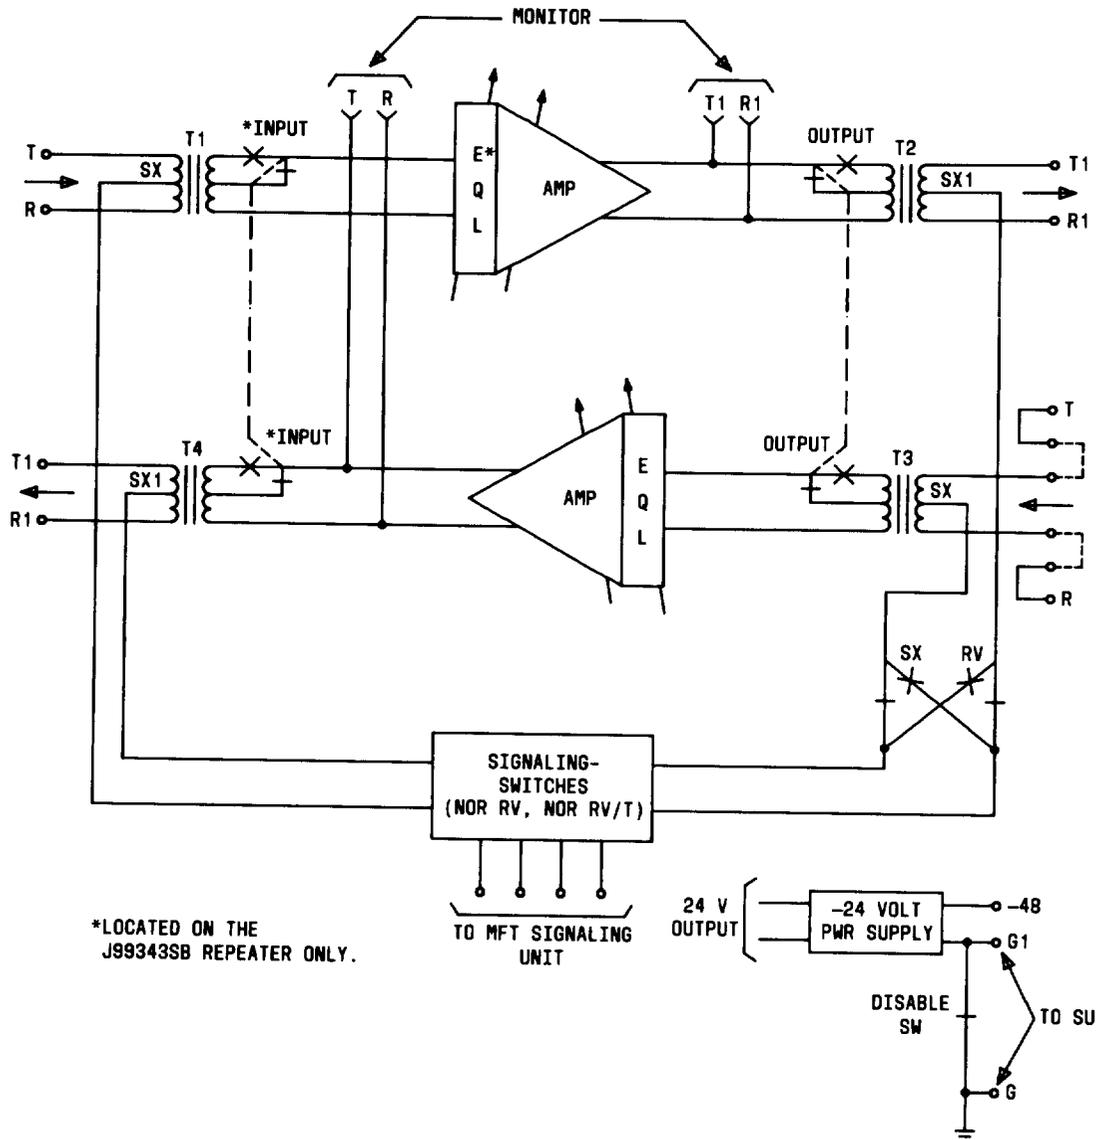
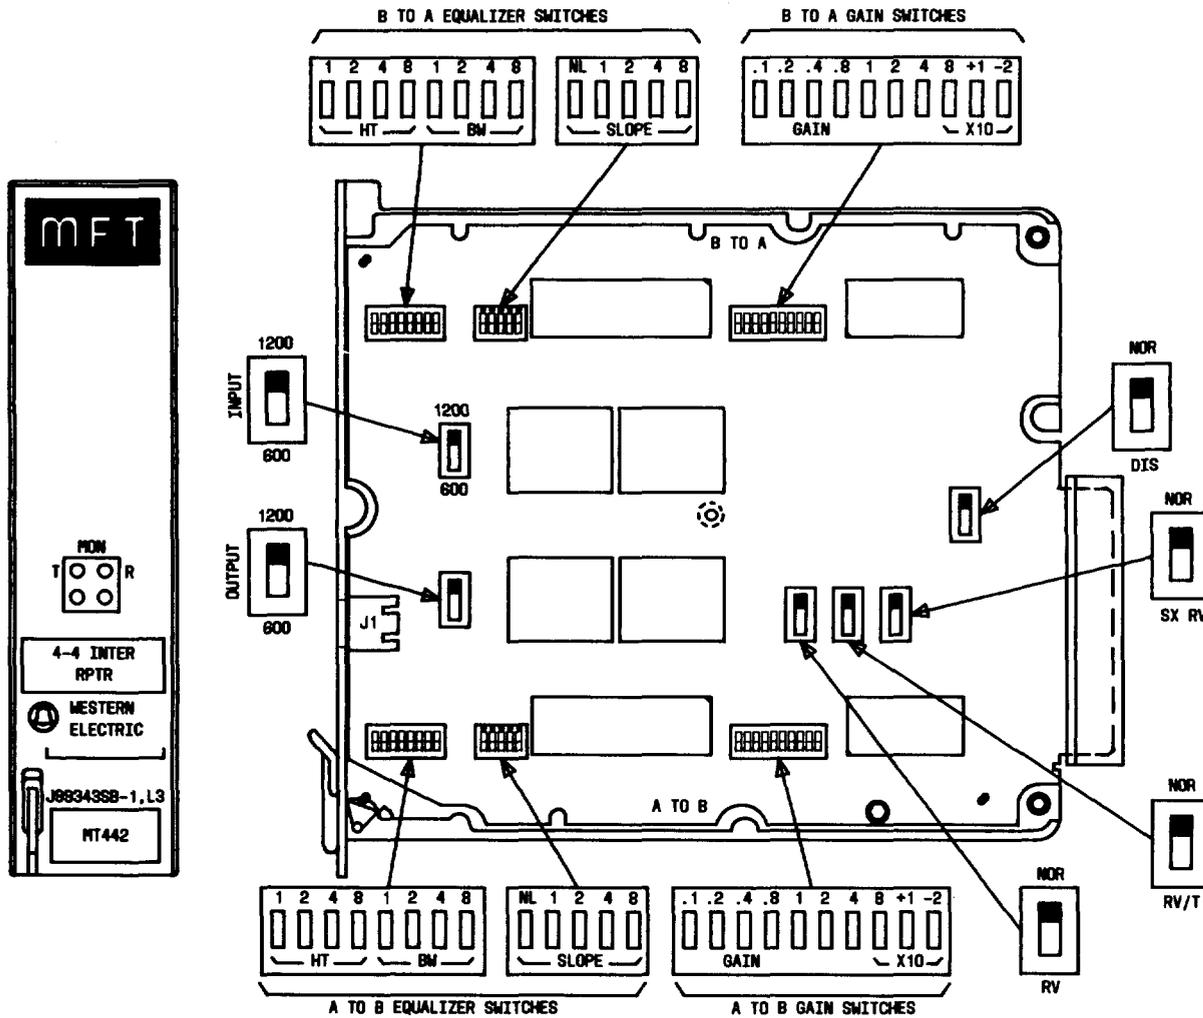

Fig. 5—Block Diagram of the J99343SA and SB, List 3 Repeaters
Fig. 7—J99343SB, List 3 Repeater Component Layout
ization is provided in the B-to-A direction of transmission. Figure 5 is a block diagram of this unit.
5.01 The J99343SB, List 3 is shown in Fig. 7. It provides intermediate gain and equalization between loaded or nonloaded 4-wire facilities. Figure 5 is a block diagram of the unit.
5.06 The rocker-type switches for a particular function, which are described in the following paragraphs, are operated when depressed toward the respective designation. The sum of the values of the switches operated is the setting for that function. The unit controls are illustrated in Fig. 7.